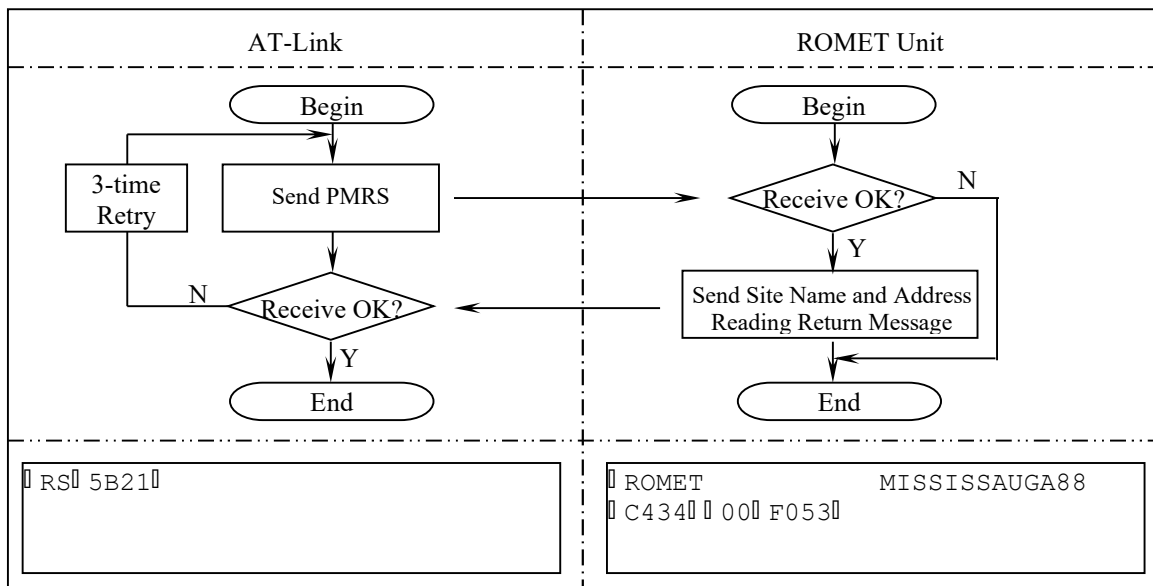

Figure 7-8. Site Name and Address Reading Flow Chart
7.9 Site Name and Address Reading (Figure 7-8)